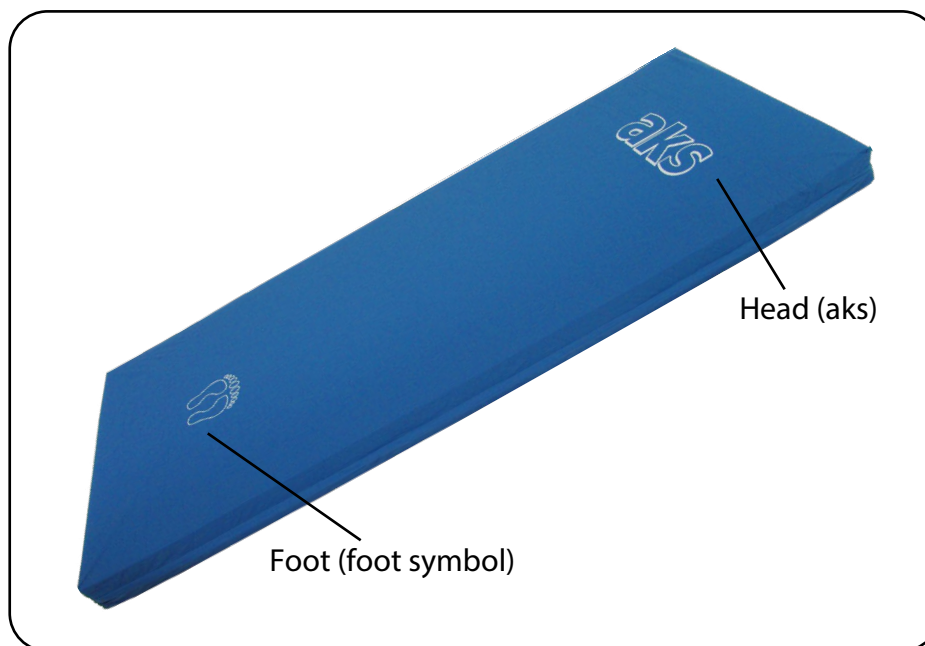

Fig. 6.01 – Mattress with mattress cover
7. Make sure that the “aks” imprint and the foot symbol are upright. The “aks” imprint should be positioned at the head of the bed and the foot symbol should be positioned at the foot (Fig. 6.01).